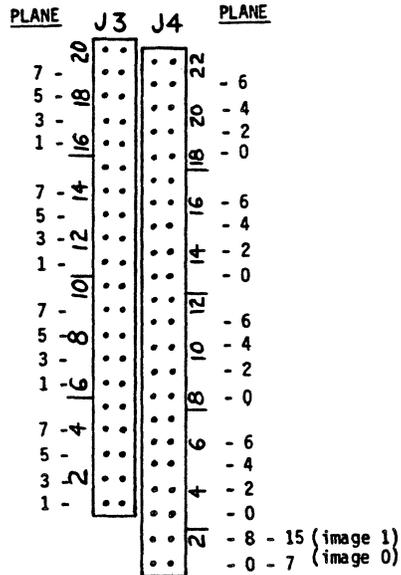

figure 3
- Refer to figure 3. Locate header J4 and jumper pin 1 to select image 0 or pin 2 for image 1.